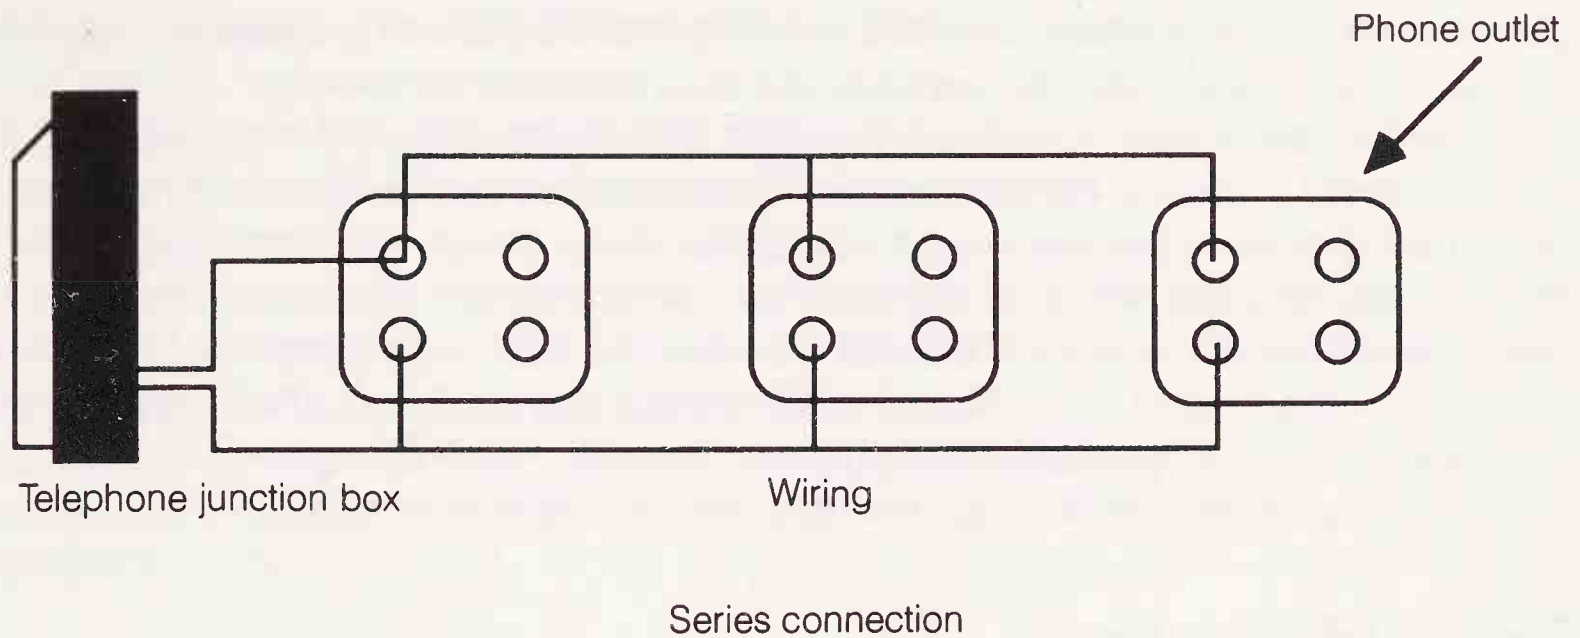

Fig. 7-3. Phone extension outlets wired in series.
- Outlets in series (FIG. 7-3) are attached one right after the other in daisy-chain fashion. A break *anywhere* along the line will affect all outlets after it.